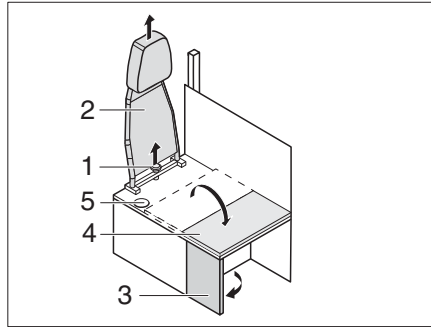

Fig. 184 Conversion drive - living mode
- Unscrew the star screw (Fig. 184,1) and remove the backrest (Fig. 184,2) towards the top.
- Fold out the side panel (Fig. 184,3).
- Fold the seat bench extension (Fig. 184,4) to the side panel.
- ▷ When converting from living to travel mode proceed in the reverse order. Make sure that the safety belt is lead through the opening (Fig. 184,5).